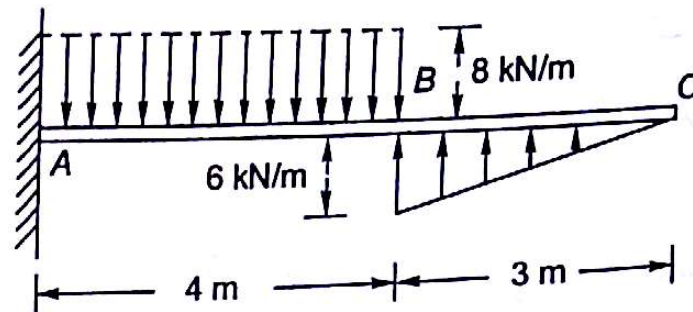

Fig. 2.26
- 2.6 A cantilever 7 m long carries distributed loads as shown in Fig. 2.26, constant rate from A to B, equates to 8 kN/m and linearly varying load from B to C with $w = 6$ kN/m at B and $w = 0$ at C in the upward direction.